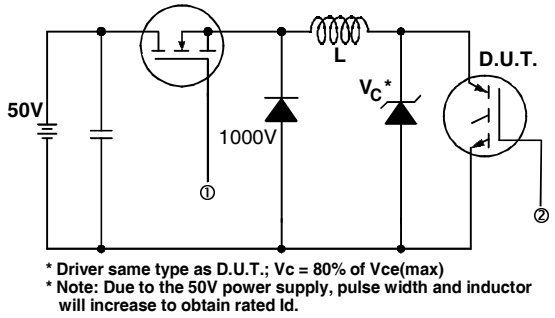

Fig. 13a - Clamped Inductive Load Test Circuit
- ② V_{CC}=80%(V_{CES}), V_{GE}=20V, L=10μH, R_G= 5.0 Ω (figure 13a)
- ③ Pulse width ≤ 80μs; duty factor ≤ 0.1%.
- ④ Pulse width 5.0μs, single shot.
- ⑤ Repetitive rating; pulse width limited by maximum junction temperature.